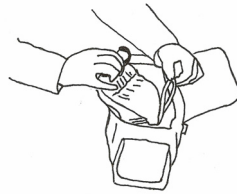

Figure 4: Place the Ice Bag back into the Control Unit taking care not to kink or crush tubing under ice bag.
10. Return the Ice Bag to the Control Unit case, taking care that the tubing is routed loosely and in such a manner as to eliminate the risk of kinks or other damage to the tubing (Fig. 4). The tubing should not be under the Ice Bag, and should lie against the back of the Control Unit as shown in Figure 4.